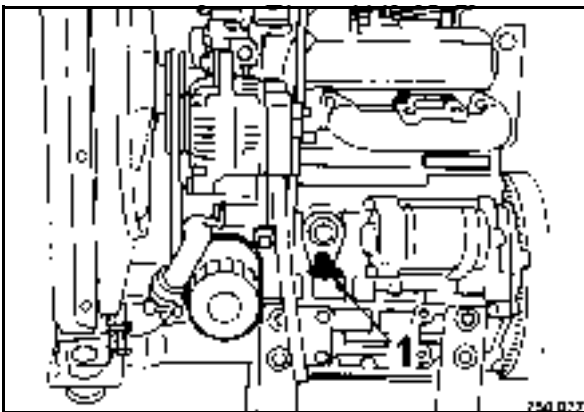

Fig. 131
- Open the drain valve (Fig. 131) on the engine.